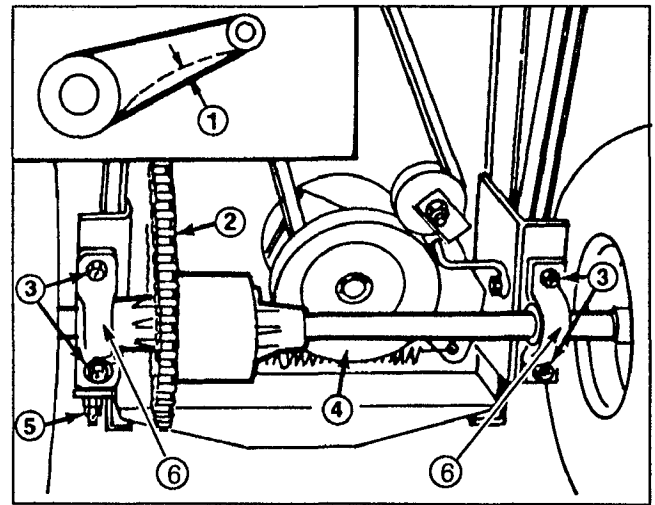

Figure 32
1. Check the deflection of the drive chain from bottom of rider by lifting up on chain with moderate pressure at mid span (Fig. 32). There should be 1/8 of an inch (3 mm) deflection (Fig. 32). If deflection is not as specified, an adjustment is required — steps 2-6.
2. Loosen four flange nuts securing pillow blocks w/ differential axle to the rider frame (Fig. 32).
5. Since differential axle must be parallel to rear of chassis, measure distance from center of pillow blocks to rear of chassis (Fig. 32). Difference between the two measurements must not exceed 1/4 inch (6 mm). If difference exceeds 1/4 inch (6 mm), differential axle is not parallel with chassis; therefore left side must be repositioned to attain desired dimension. Tighten locknuts securing left pillow block to rider frame.